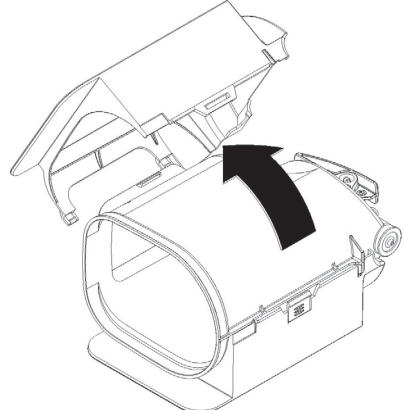

figure 6
- 2 Remove the left part of the recover and then the right part. (see figure 6).